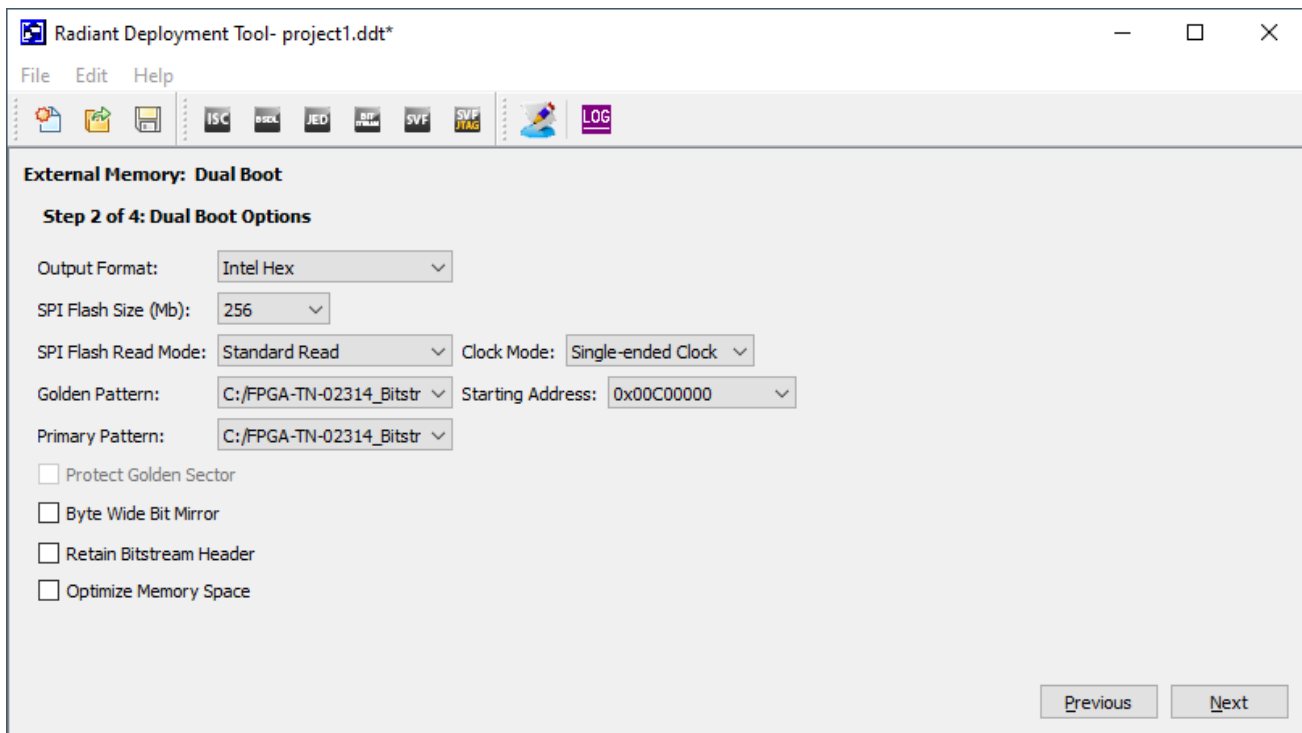

Figure 4.3. Dual Boot Options Window
Step 2 of 4: Dual Boot Options window (Figure 4.3)